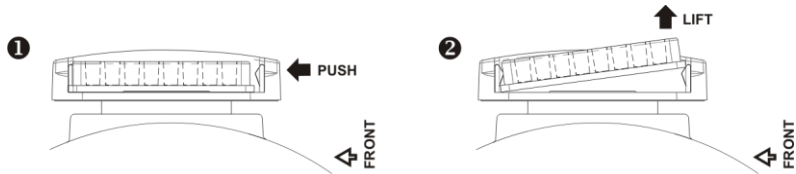

Fig. 2. Platform or plate removal
Remove the platform or plate by pushing the rear end of platform/plate into spring clamps (fig. 2/①) and lift the front edge up (fig. 2/②).